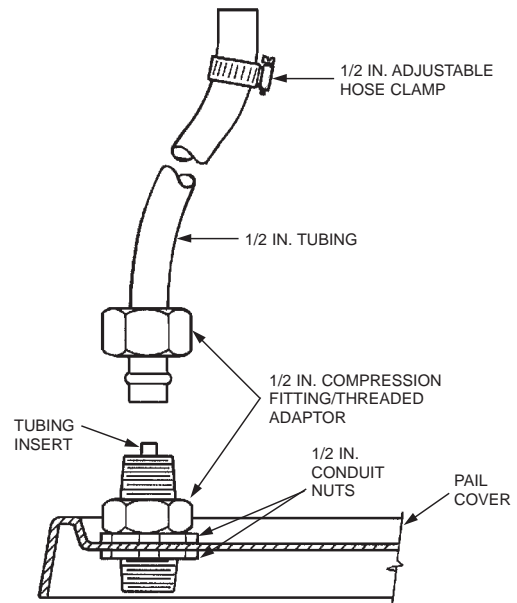

FIGURE 4
- b. Slide a length of 1/2 in. (12.7 mm) plastic tubing over the swivel adaptor and secure with a 1/2 in. (12.7 mm) adjustable hose clamp. See Figure 4.
- d. Secure 1/2 in. compression fitting/threaded adaptors to the pail cover, using 1/2 in. conduit nuts. See Figure 4.
- e. Attach the tubing ends to the compression fittings. Tubing inserts will be required. See Figure 4.